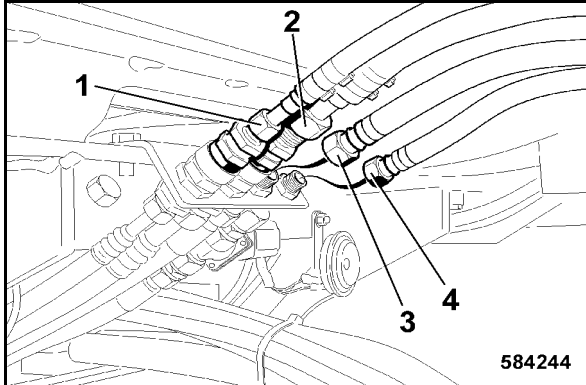

Fig. 222
- Connect the feed 1 (Fig. 222) and the return flow (2) for the air conditioning system with quick release couplings.
- Connect the feed (4) and the return flow (3) of the heating. (Observe the marks on the hoses).